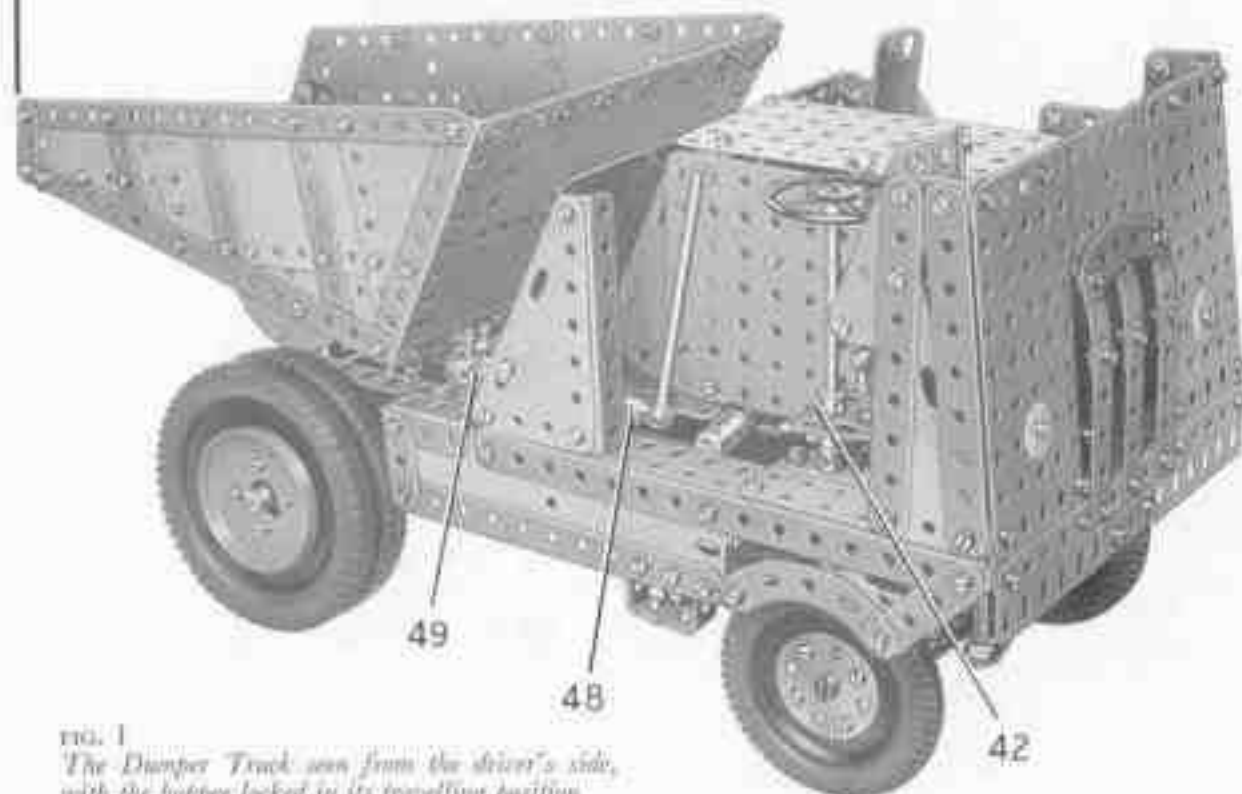

FIG. 1
The driving seat is made by attaching a  $2\frac{1}{2}$ "  $\times$   $1\frac{1}{2}$ " Flexible Plate and two  $2\frac{1}{2}$ "  $\times$   $1\frac{1}{2}$ " Triangular Flexible Plates to a Flat Trunnion by Angle Brackets. A  $1\frac{1}{2}$ " Strip is connected to the Flat Trunnions by an Obtuse Angle Bracket, and to a second Flat Trunnion (42) (Fig. 1) by another Obtuse Angle Bracket. Flat Trunnion (42) is passed over the steering column and is held in place by the 'spider' from a Swivel Bearing.
**The Tipping Hopper (Figs. 1, 2 and 7)**
The hopper locking lever is a  $3\frac{1}{2}$ " Rod held in a Handrail Coupling (48) (Fig. 1). The Handrail Coupling is fixed on a 3" Rod